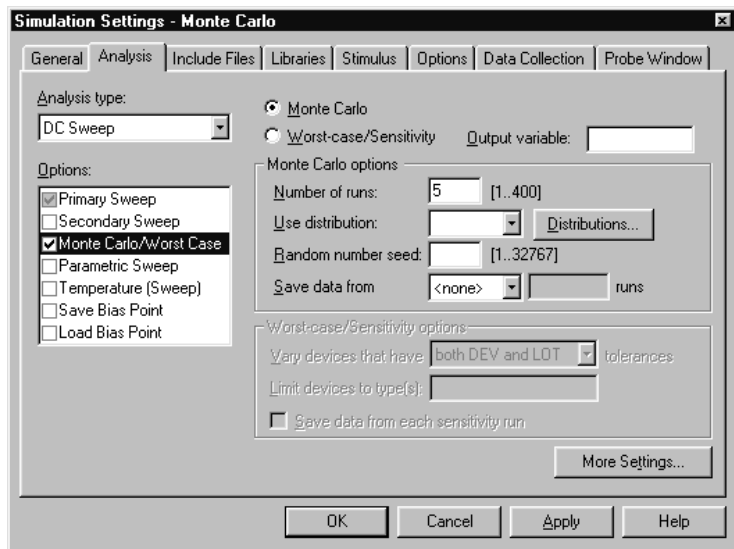

Figure 76 Monte Carlo analysis setup for EXAMPLE.DSN.
- 3 In Capture, set up a new Monte Carlo analysis as shown in Figure 76. The analysis specification tells PSpice to do one nominal run and four Monte Carlo